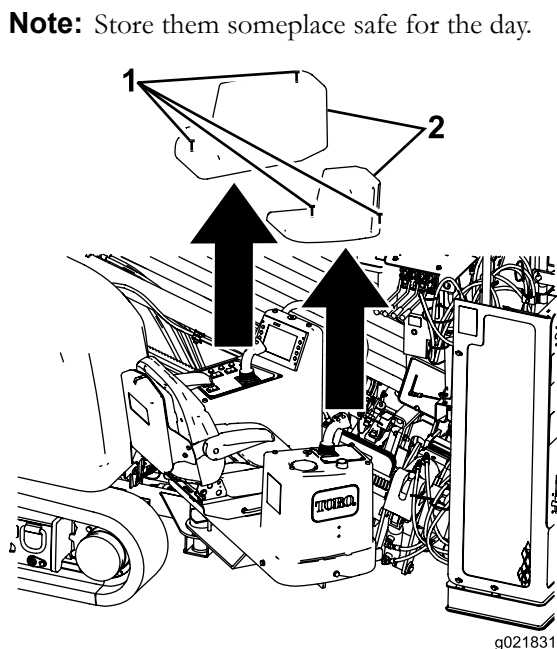

Figure 69
3. Loosen the 4 screws that secure the covers over the operator consoles and remove the covers (Figure 69).